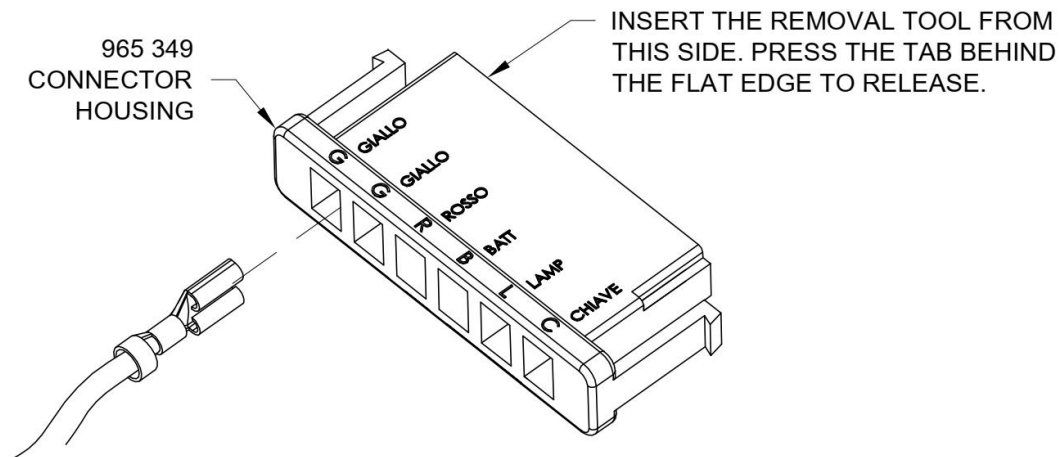

FIGURE 2: REMOVE WIRES FROM CONNECTOR
Step 9: Remove the pins from the Ducati regulator connector. See Figure 2. The connector will not be reused in this installation.